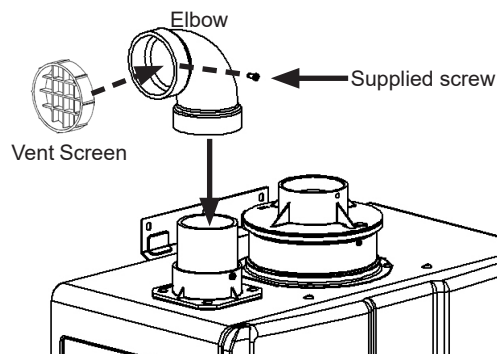

Figure 45
4. Place the vent screen or room air screen inside elbow and secure with the supplied screw. Use the room air screen for environments where room air is dusty (Figure 45).